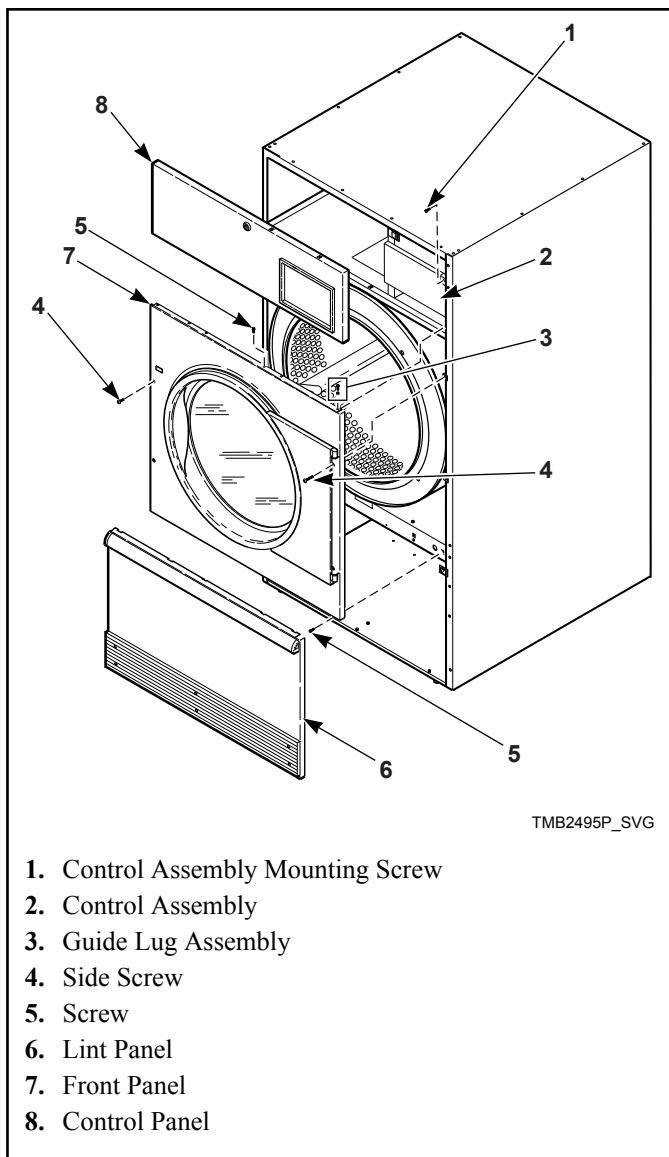
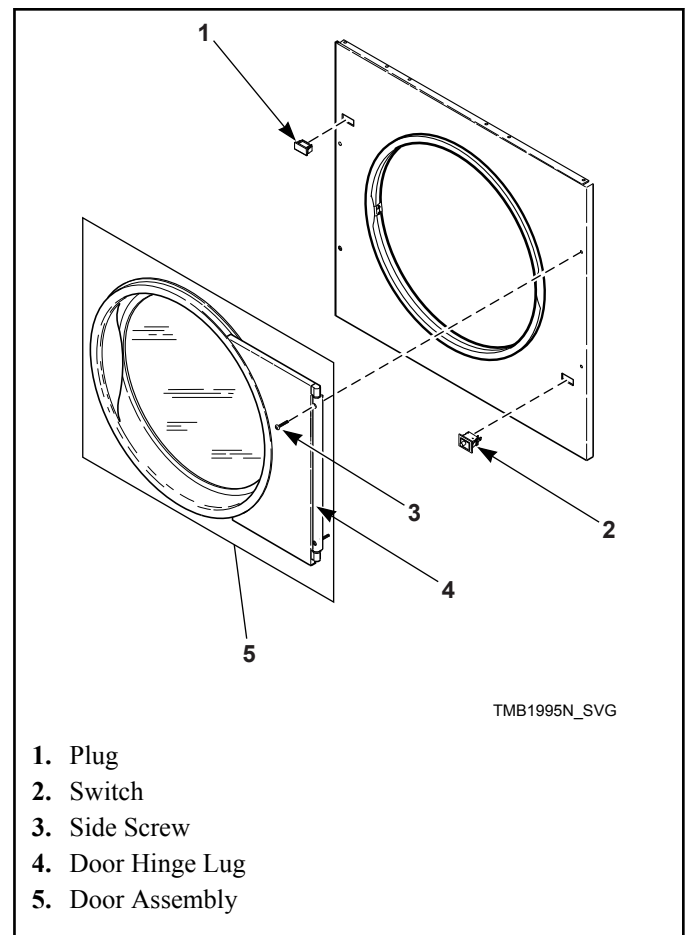

Figure 7
Figure 8
2. Unlock and remove control panel. Remove two control assembly mounting screws from right side. Swing open control to access upper flange right guide lug assembly. Refer to *Figure 7*.
4. Remove four front panel screws. Refer to *Figure 7*. Keep door hinge cams in place on door hinge lug. Pull lug and door assembly off as one piece. Refer to *Figure 8*.
5. Remove remaining front panel screws. Refer to *Figure 7*. Disconnect door switch harness from switch. Take off front panel. Refer to *Figure 8*.
6. Exchange switch and plug locations. Depress tabs with an adjustable pliers to remove plug and switch from front panel. Reinstall switch, orienting button toward center of machine. Reinstall plug in switch's previous location. Refer to *Figure 8*.